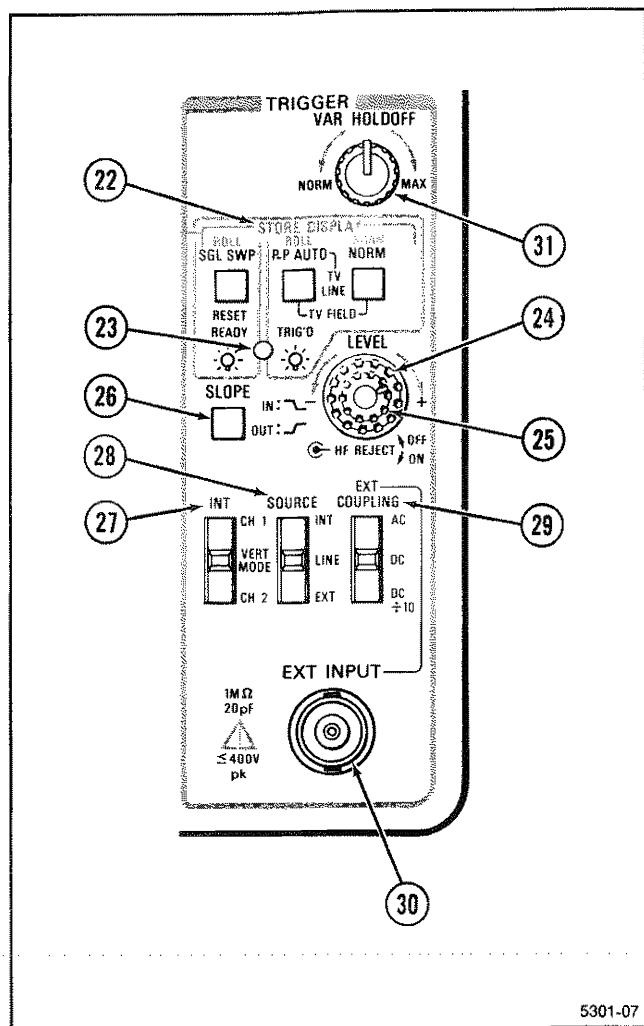

Figure 3-4. Trigger controls, connector, and indicator.
See Figure 3-4 for the location of items 22 through 31.